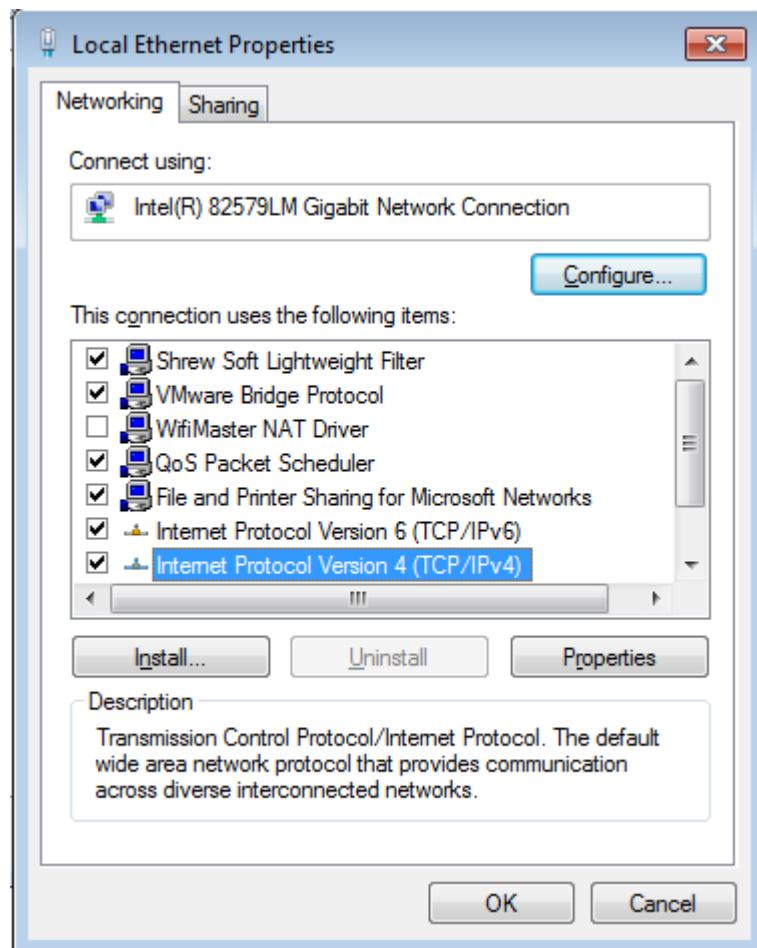

Figure 4-8 Local connection properties
Step 2 Right-click local Connection and click Properties in the pop-up menu to open the Local Connection window, as shown in Figure 4-8.